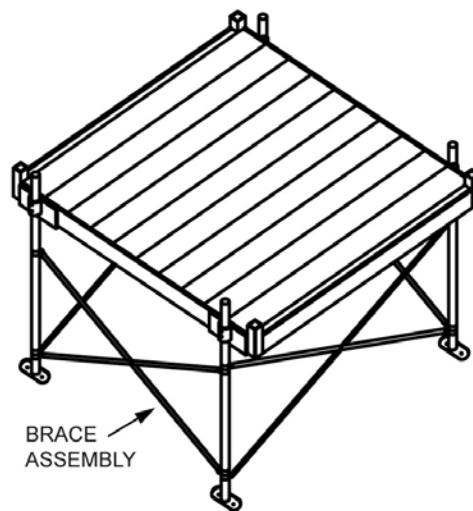

FIG. 13
- i) Install platform brace assemblies on all support tubes when the walking surface is 36" or more above the ground. The platform brace assemblies are normally installed on all four sides (FIG. 13).